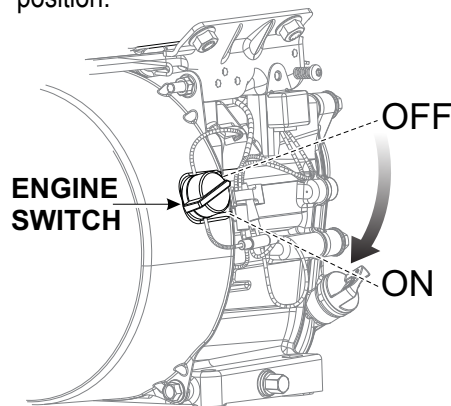

Figure 22. Engine ON/OFF Switch (ON)
5. Place the **Engine ON/OFF switch** (Figure 22) in the "ON" position.
6. If the engine has started, allow switch to return to **ON** position, then slowly return the choke lever (Figure 22) to the **OPEN** position. If the engine has not started, repeat steps 1 through 6.